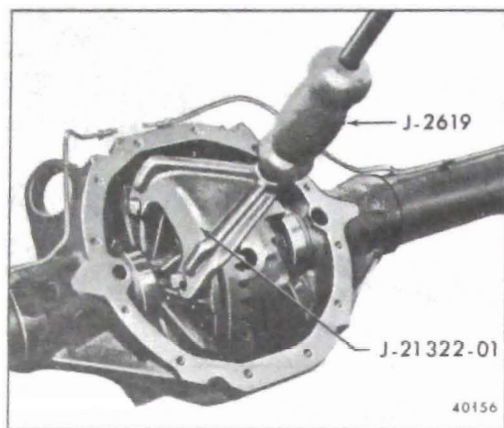

Figure 40-184 - Removing Differential Case From Carrier
5. Remove the two previously loosened ring gear bolts and install the Case Remover J-21322-01 and Slide Hammer J-2619. See Figure 40-184.